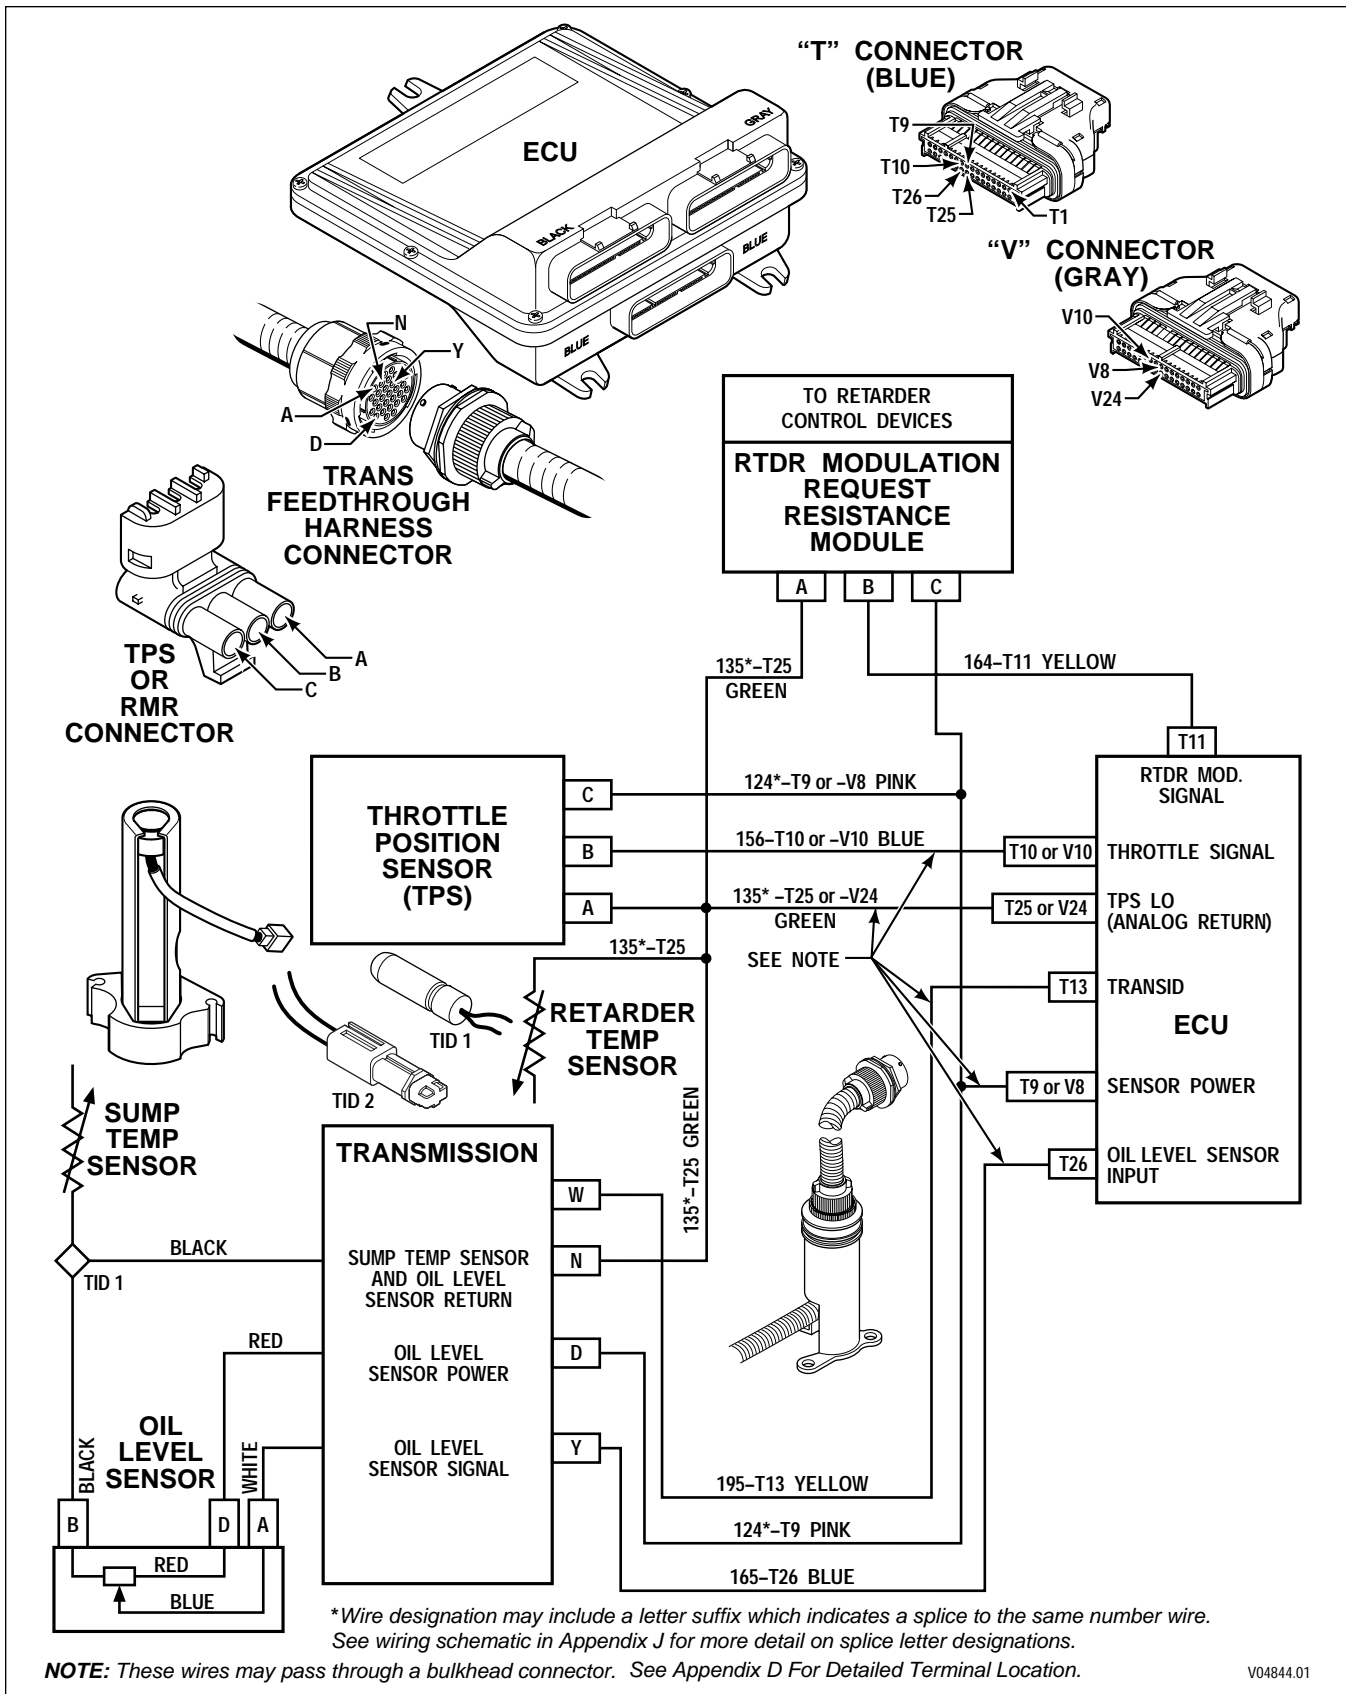

Figure 6-4. Code 21 Schematic Drawing
**CODE 21 XX — THROTTLE OR PWM FAULT** (Figure 6-4)
**CODE 21 XX — THROTTLE OR PWM FAULT** (*Figure 6-4*)